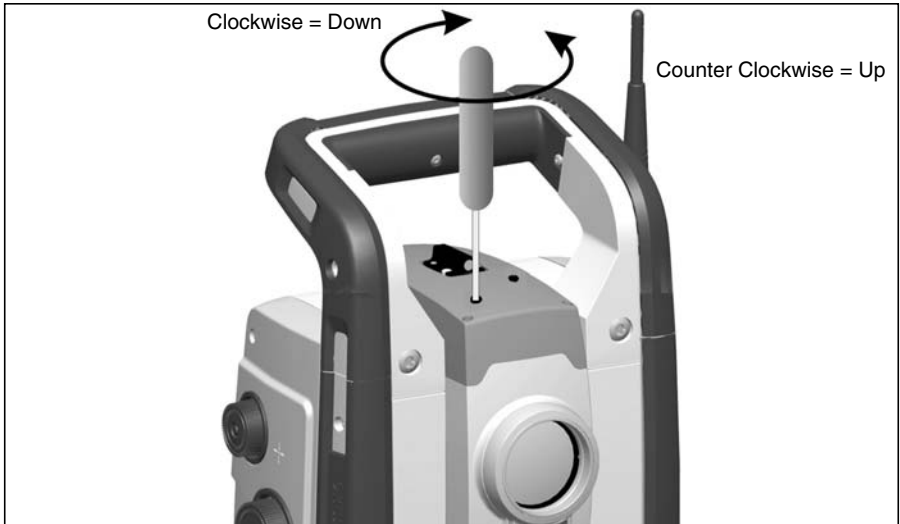

Figure 4.30 Vertical position adjustment
2. To correct the vertical position of the laser spot, insert the allen key into the vertical adjustment port and turn it as shown in figure 4.30.